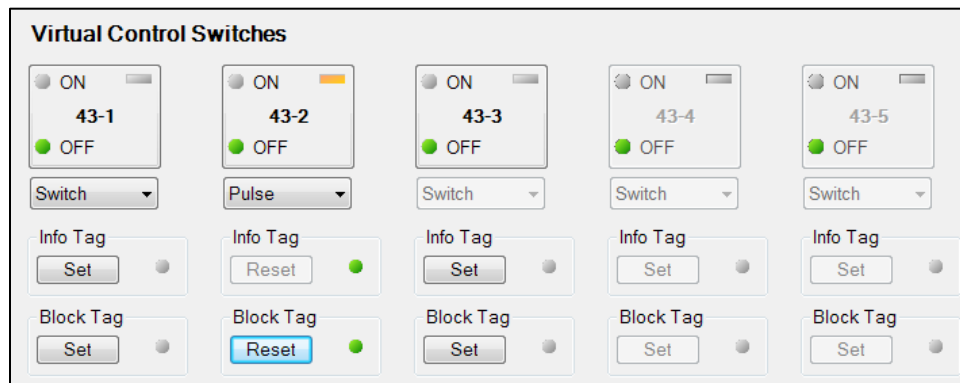

Figure 23-1. Virtual Switches Control Screen
1. Use the Metering Explorer to open the Control/Virtual Switches tree branch (Figure 23-1).
2. If Switch/Pulse mode is selected on the Virtual Control Switches (43) settings screen in BESTCOMSPi.us, use the drop-down box to select either Switch or Pulse.
Tagging of virtual control switches can be accomplished through the front panel and through BESTCOMSPi.us. Use the Metering Explorer in BESTCOMSPi.us to open the Control/Virtual Switches tree branch. Click on the Set button for Info Tag or Block Tag. If tagging is successful, the indicator to the right of the Set button will turn green. A tagged switch is indicated by an amber indicator in the upper right corner of the element button. Click on the Reset button to clear a tag. Refer to Figure 23-1.